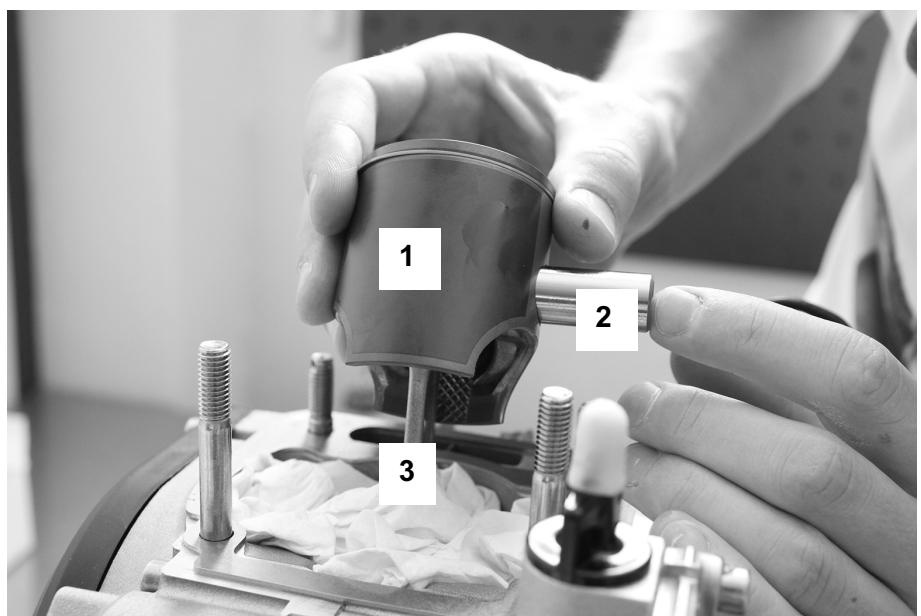

Fig. 31 (K00335)
- Install the piston (1) and piston pin (2) to the conrod (3). See Fig. 31